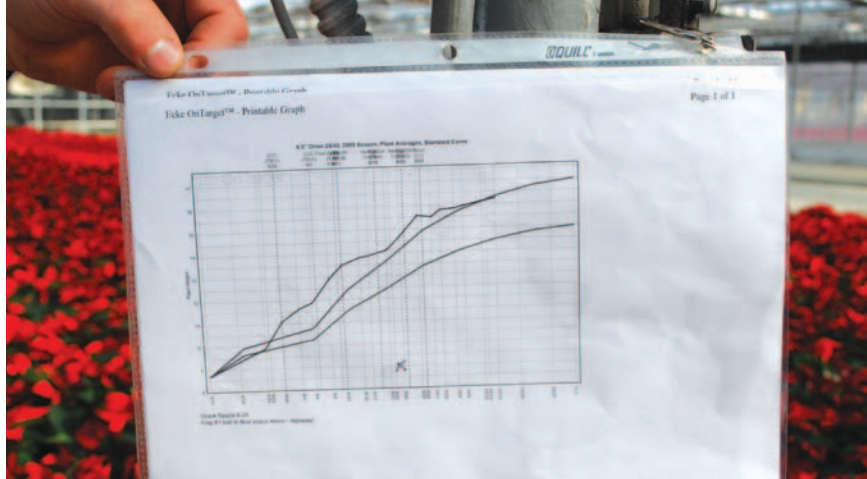

Figure 5. This greenhouse operation has its graphical tracking curves in plastic folders in the greenhouse.
- Keep a copy of your graphical tracks in a clear plastic folder next to your crop so you can see how your actions are influencing stem elongation (Figure 5).